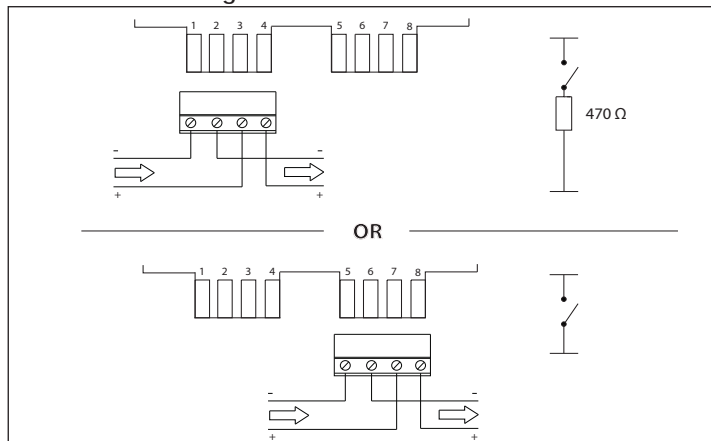

Fig 2 Terminal block connections
- Remove terminal block from the PCB. Run the cables into the backbox and connect them to the terminal block as shown in Fig 2. Ensure that functional earth/screen continuity is maintained. Screens should be connected to the terminal in the backbox.